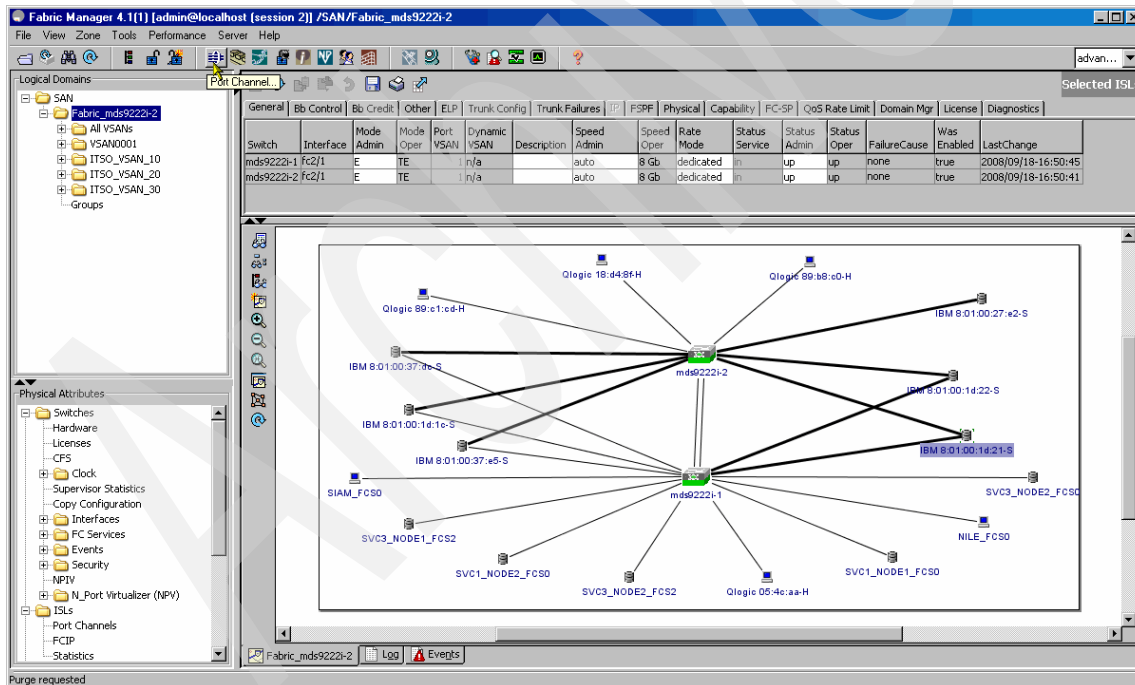

Figure 6-86 Two MDS9222i connected by two EISL 8 Gbps links
1. To start the PortChannel configuration from the GUI, select the icon, as shown in Figure 6-86.